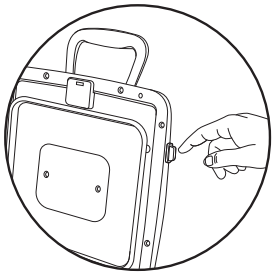

Fig. 1
- b. Press the upper plate release button (located on the right side of the lid) with one hand, while removing the plate with the other hand. (Fig. 1,2)